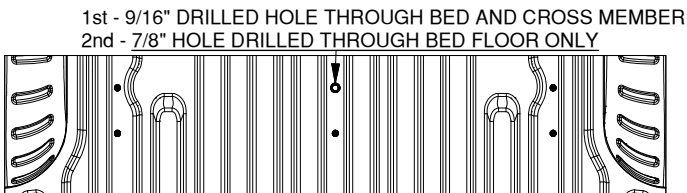

Figure B3: View looking down at top of bed.
- 4. Enlarge the holes.** Using the 1/8" holes as pilots, drill out each hole with a 9/16" bit. The center forward drill location on the rear rail is directly above a bed crossmember. This hole location will receive a 1/2" X 4-1/2" carriage bolt, see Figure B3. The drill must pass through both the bed and the crossmember, at this location, and should be as straight as possible when drilled. Enlarge this hole to 7/8" in the bed only.